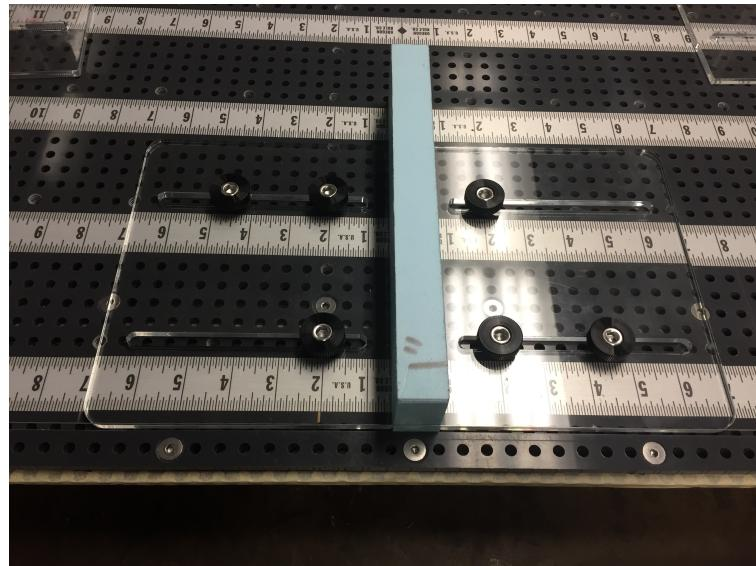

Figure 2.3: Secure the Foam Step 5
- Place a second acrylic plate firmly against the foam and secure with 3 thumb screws as shown in fig 2.3 below.